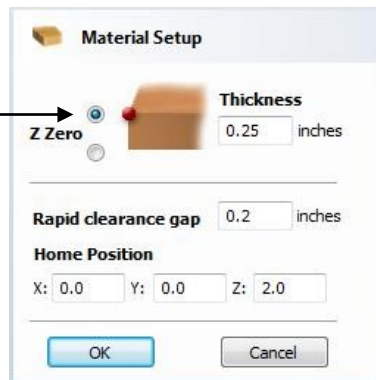

Figure 11. Material Setup
9. Select the **Material Setup** icon  from the **Toolpath Operations** list on the Toolpaths tab and specify the Rapid Clearance Gap to be **0.2"** and Home position to be **X0, Y0, Z2"** as shown below in Figure 11.